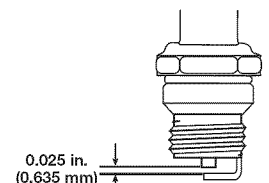

Fig. 22
- Replace cracked, fouled or dirty spark plug. Set the spark gap at 0.025 in. (0.635 mm) using a feeler gauge (Fig. 22).